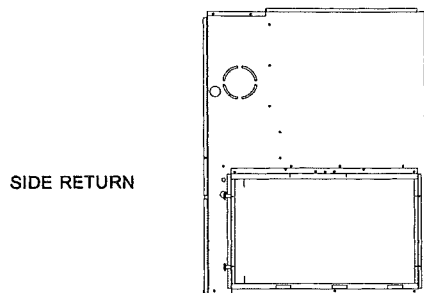

Figure 1.2
7. Square the entire assembly (ensuring that the top and bottom pieces are straight horizontally and the rear piece and front access piece are straight vertically in relation to each other) to the unit and secure the filter rear and filter top pieces to the unit using self drilling screws and the guide holes provided in the filter rack pieces. **Do not** secure the filter front/access piece to the unit as it will need to be removed for filter service. The locking tabs on the assembly will hold the front/access piece securely in place. See Figure 1.2.